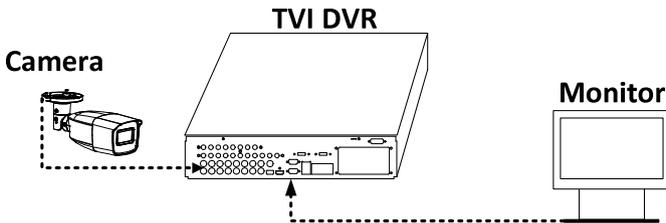

Figure 3-1 Connection
1. Connect the camera to the TVI DVR, and the monitor, shown as the figure 3-1.